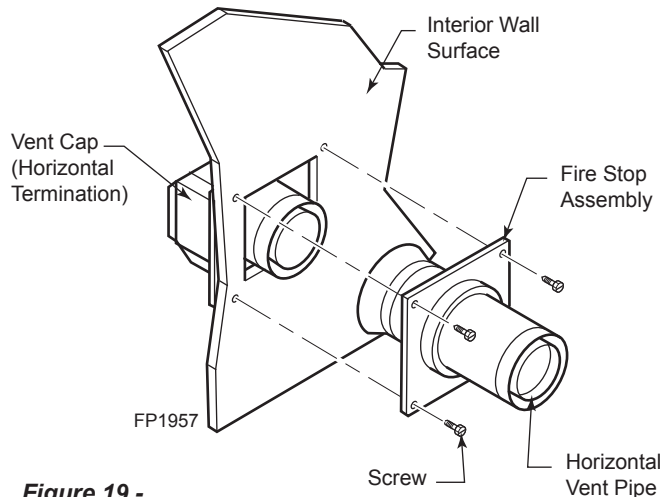

Figure 19 - Connect Vent Cap with Horizontal Vent Pipe
6. Slide the wall thimble over the vent pipe before connecting the horizontal run to the vent cap. *Figure 19*
8. Slide the wall thimble against the interior wall surface and attach with screws. *Figure 19*